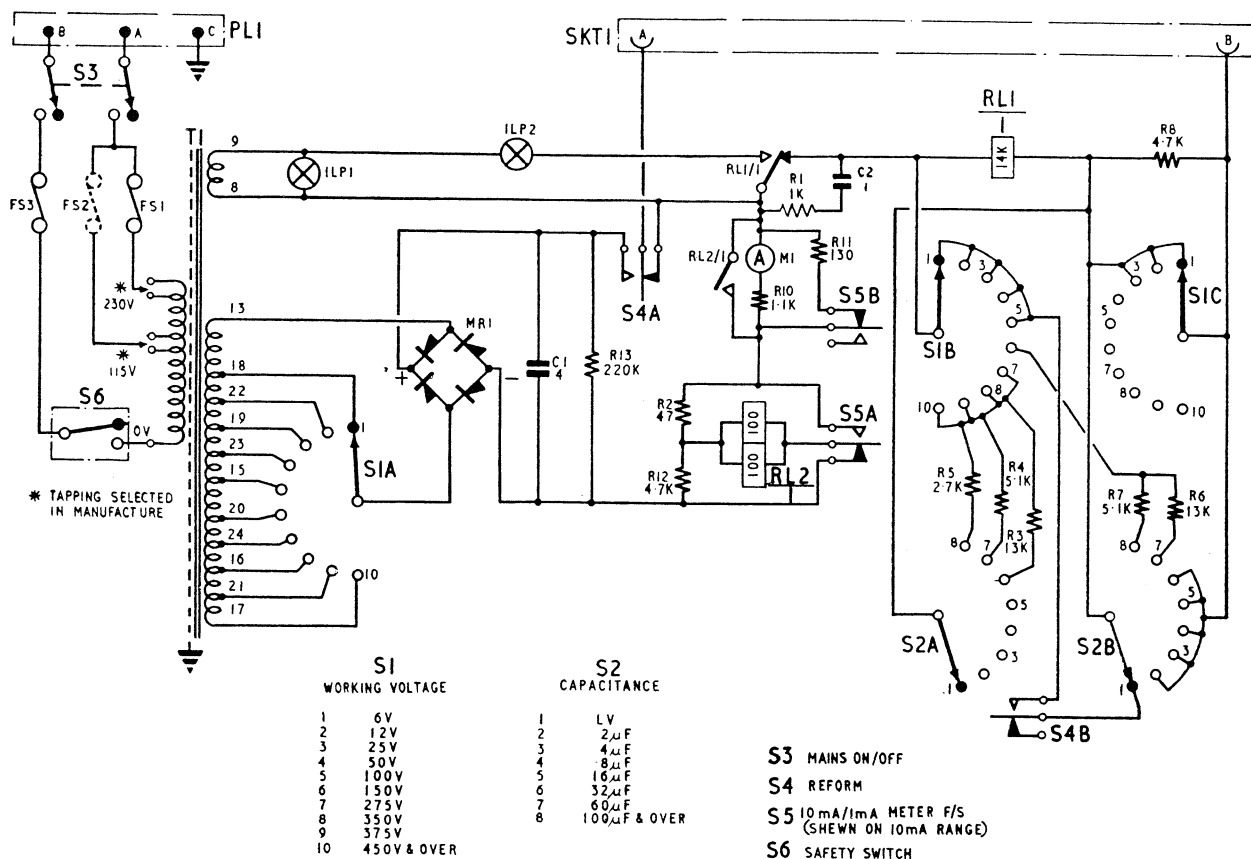

Fig. 5. Reforming unit, electrolytic capacitor, No. 1 equipment
8. The unit (fig. 5) includes a power pack, range
16. The interrupter relay RL1 is in circuit on all ranges when the REFORM switch S4 is at its normal or 'discharge' position, and is also in circuit on WORKING VOLTS settings of 150V or more. From fig. 5 it will be seen that the winding of RL1 and the 'break' side of contacts RL1/1 are connected in series in the negative reforming supply line, while the 'make' side of RL1/1 is connected across a circuit which includes the 6V winding of T1 and a green REFORM indicating lamp ILP2. When capacitors with a working voltage of less than 150V are being serviced, the relay winding is automatically short-circuited when the REFORM switch is depressed and, consequently, the relay is inoperative. If the REFORM switch is depressed on any other WORKING VOLTS setting, the capacitor reforming (leakage) current will flow continuously through the relay windings and contacts so long as the current is less than approximately 0.6mA. If the current exceeds this value, however, relay RL1 will be energized and contacts RL1/1 will break the reforming circuit and make the indicating lamp circuit, causing ILP2 to light. Since RL1 is now de-energized, the contacts will return to their original position, re-connecting the reforming supply and extinguishing ILP2. This sequence will continue, the reforming voltage being applied to the capacitor in pulses (with the green lamp flashing) until the leakage current through the relay has fallen below the 0.6mA level, when the lamp will be extinguished and a steady current will flow. A filter comprising a 1K resistor R1 and a 1 microfarad capacitor C2 is connected across the break contacts of the relay to increase the break time and incidentally to protect the relay contact from excessive sparking.
19. Capacitors of less than 150 V.W. In fig. 5, switches S1 and S2 are shown adjusted for capacitors of 6V.W., that is, S1 is set to 6V and S2 is set to LV (the latter setting is used for all capacitors having a working voltage of less than 150V, regardless of the capacitance). If the REFORM switch S4 is now depressed, resistor R8 will be short-circuited by S1C and the winding of relay RL1 will be short-circuited by S2B, S4B and S1B. Consequently, at this control setting the capacitor is connected, in series with the leakage-current meter M1, directly across the selected reforming supply.